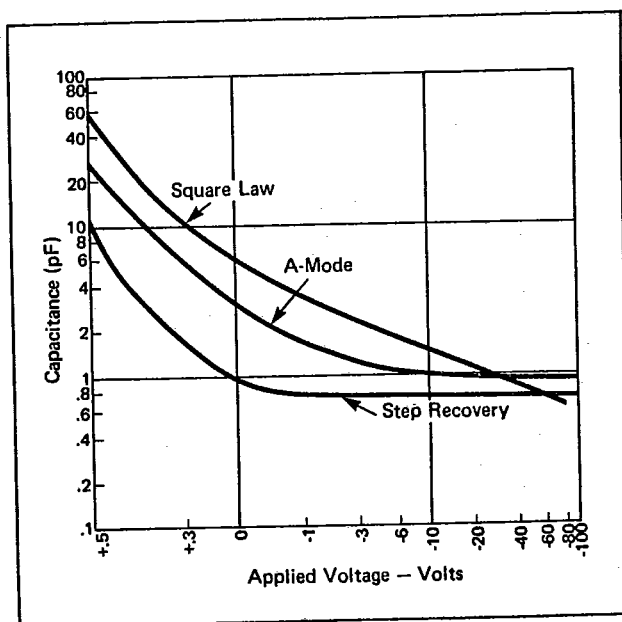
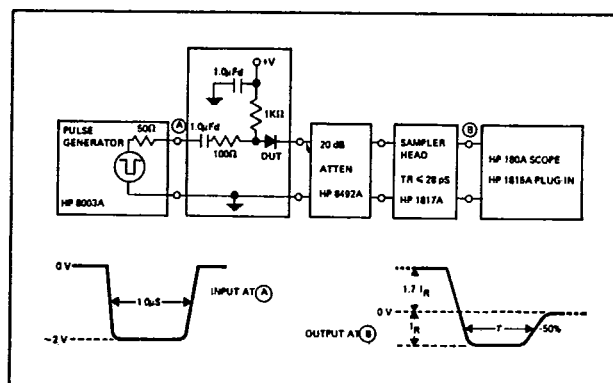
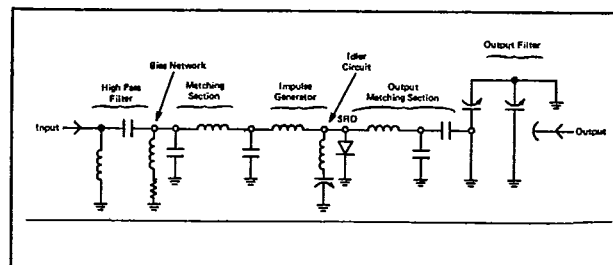

Figure 1. Capacitance vs Applied Voltage for Square Law and A-Mode Multipliers and Step Recovery Diodes
Figure 4. Minority Carrier Lifetime, τ , Test Set-Up
Figure 6. Typical SRD Multiplier
and T_T are shown in Figures 4 and 5. For optimum performance an ideal SRD will be a punch-through device at zero volts (any increase in reverse bias above zero volts will not decrease capacitance) but will have a highly non-linear capacitance increase as the diode is forward biased. In actual practice a step recovery diode will not be zero punch-through but will have $C_{J0}/C_{J6} \leq 1.4$. This can be clearly seen in Figure 1. SRDs are highly efficient, and idlers are not needed although, if used, may further increase efficiency. A typical SRD circuit is shown in Figure 6.
3. Measured at $I_F = 10$ mA, $I_R = 6$ mA (see Figure 4)